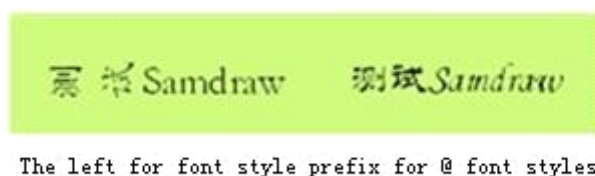

Figure 4-43: Text appearance test
- You can change the font in the drop-down menu of “Font”. SamDraw provides almost all fonts. Fonts led by @ indicate horizontal display of the Chinese characters. See Figure 4-43.